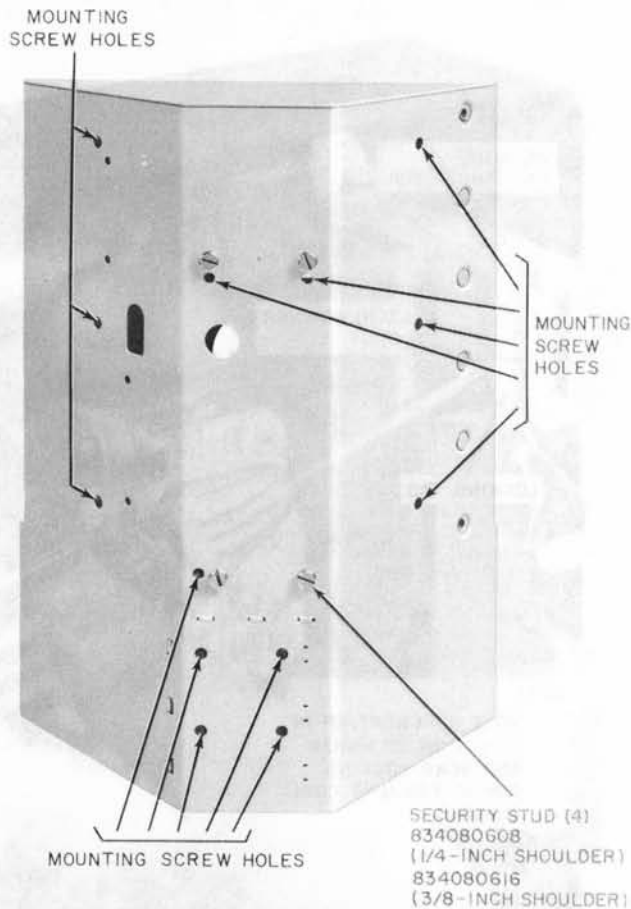

Fig. 31—Location of Mounting Screw Holes and Security Studs in 2-Type Set
3.35 The type of security studs required for the installation of the particular type of backboard, booth, or shelf is shown in Table G. The location of the security studs in the coin telephone set housing is shown in Fig. 31.